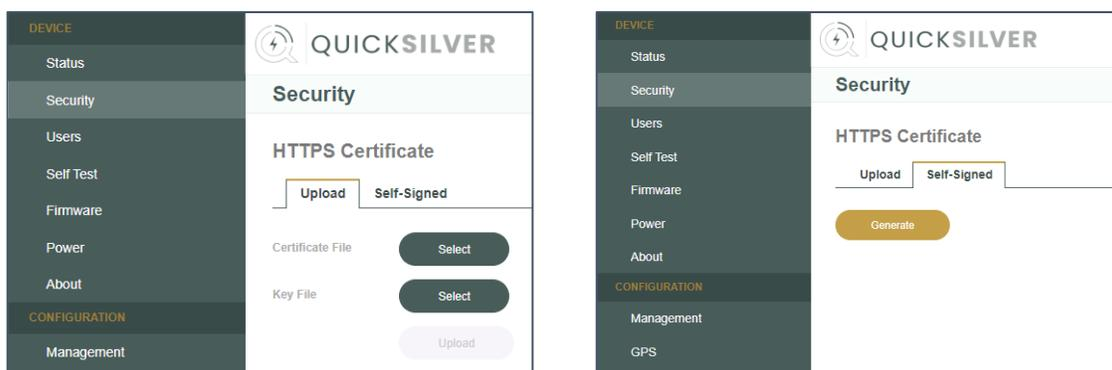

Figure 16: HTTPS Certificate Upload and Self-Signed Tabs
If desired, the HTTPS certificate used for the website / API can be updated from the *Security* menu in one of two (2) ways, as shown in **Figure 16**.